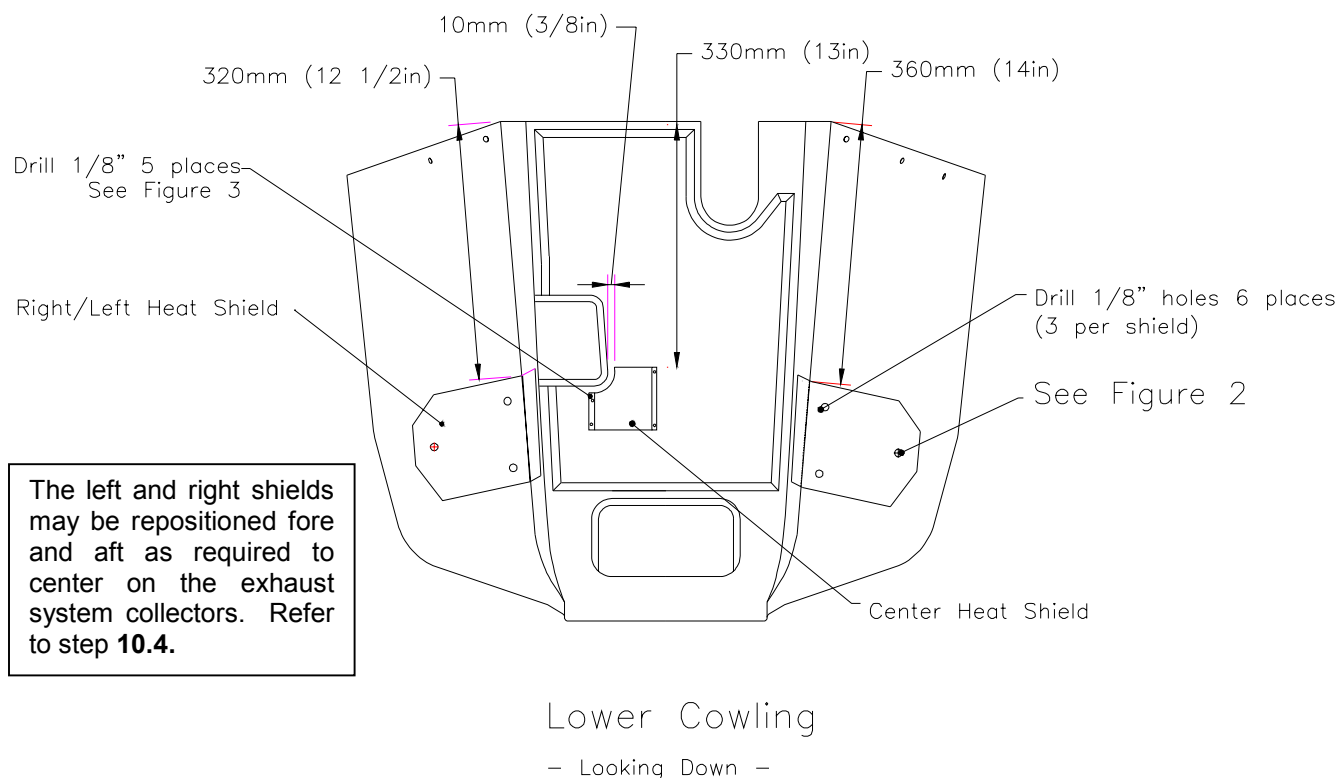

Figure 1
- 10.3** Place left and right side shields on the inside of the lower cowling in the locations shown in Figure 1. Bend the shields as required to follow the profile of the cowling.
- 10.5** Position the center lower heat shield as shown in figure 1. Mark the 5 hole locations.